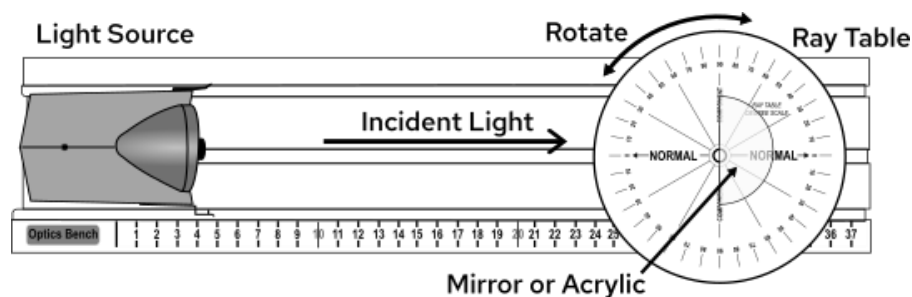

Figure 3. Equipment setup for most of the experiments. The track will help align the incident light ray with the mirror or prism on the ray table.
- Move the light source so that the light beam aligns with "NORMAL" (see Fig. 3).